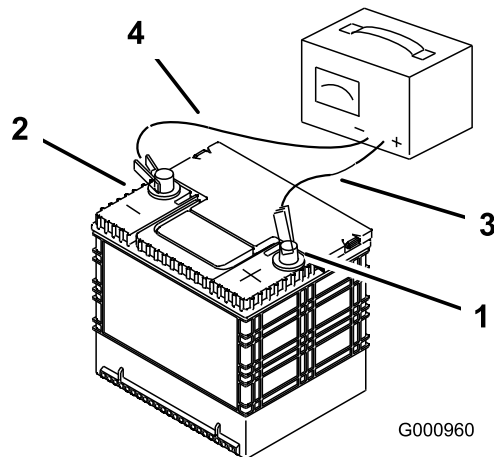

Figure 75
3. When the battery is fully charged, unplug the charger from the electrical outlet, then disconnect the charger leads from the battery posts (Figure 75).